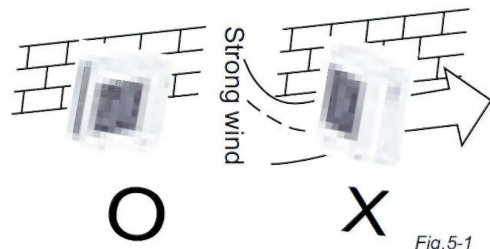

Fig.5-1
- In the case that the installation place is exposed to strong wind such as a seaside, make sure the fan operating properly by putting the unit lengthwise along the wall or using a dust or shield. (Refer to Fig.5-1)